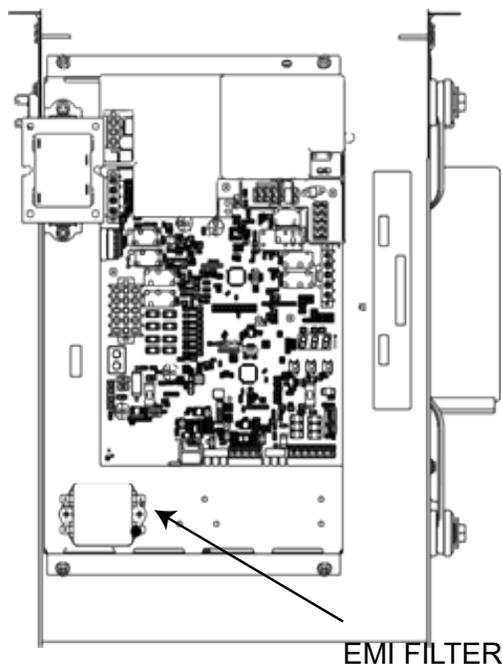
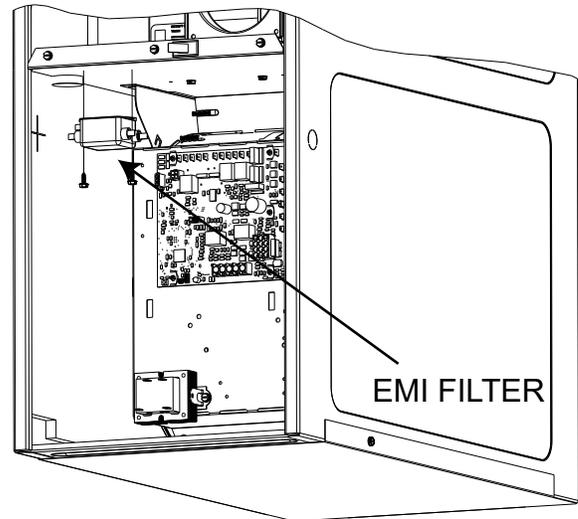

FIGURE 2
FIGURE 3
- 3) Refer to Figure 3 for the proper location to mount the EMI filter on an 80% furnace. Refer to Figure 2 for the proper location to mount the EMI filter on a 96% furnace.
96% Furnaces; Using the self-tapping screws provided, install the EMI Filter in the bottom-left area of the control mounting panel as shown in Figure 2. An existing hole in
80% Furnaces; Install the EMI Filter in the blower compartment under the blower deck as shown in Figure 3. Select an area between the door switch and the left side of the furnace approximately 1/2" back from the front edge. Secure by installing both self-tapping screws up through the blower deck.